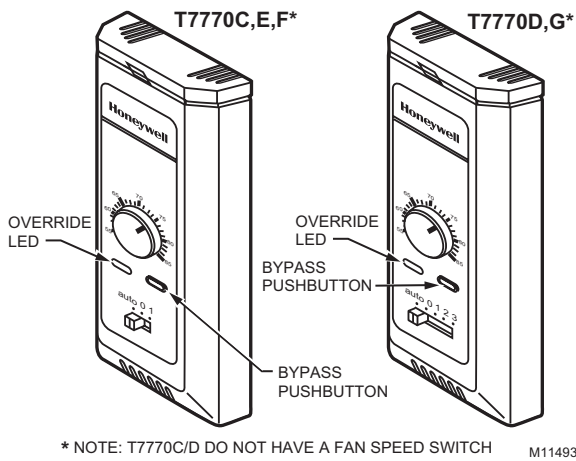
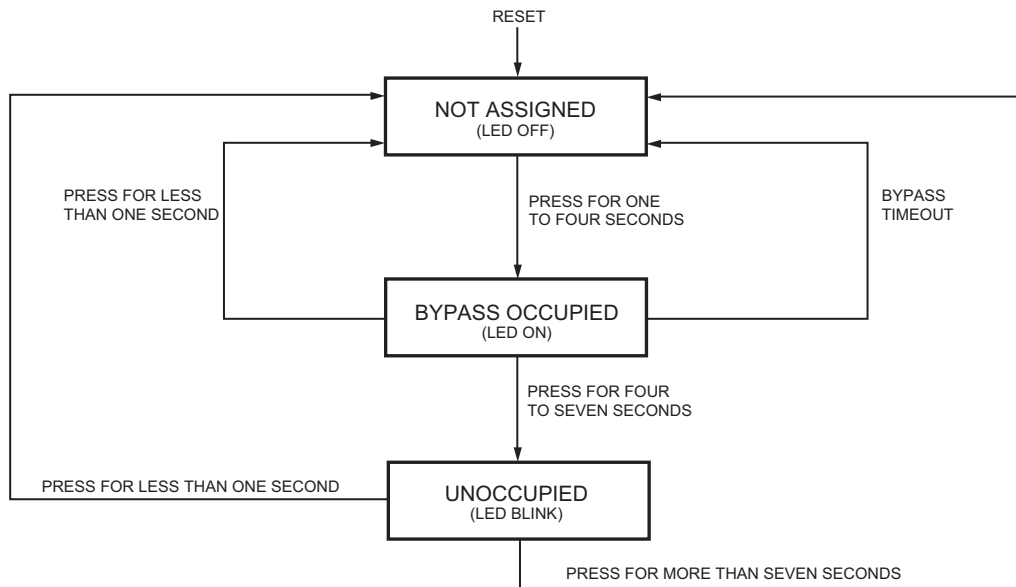

Fig. 2. LED and bypass pushbutton locations.
Fig. 3. Bypass pushbutton operation.
**When Used With Excel 10 Controllers:** The controller provides timed occupied and unoccupied temperature setpoints for the Wall Module, see Fig. 2. The bypass pushbutton is used to change the controller into the modes shown in Table 3 and Fig. 3. The override LED displays the override status of the controller.